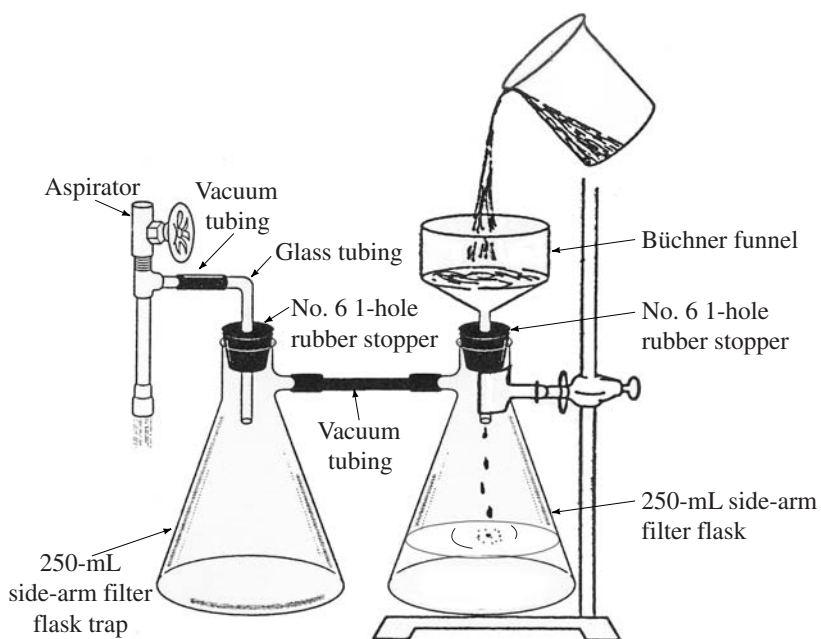

Figure 5.2
4. As the reaction proceeds, you will see flakes of brown copper accumulating on the wire. Occasionally shake the wire to loosen the copper. The disappearance of the initial blue color of the copper(II) ions indicates that the reaction is complete.
- b. Add 3 drops of 6 M aqueous ammonia to the test tube. If a dark blue solution appears, copper(II) ions are still present, and the solution should be heated to 60°C for 15 min. (Use a hot plate.)
6. When the supernatant no longer tests for copper(II) ions, the reaction is complete. Shake the aluminum wire so that all the copper clinging to it will fall into the solution. With a wash bottle filled with distilled water, wash the aluminum wire to remove any remaining residual copper. Remove the unreacted aluminum wire from the solution and discard into a solid waste container provided by your instructor.
7. Set up a vacuum filtration apparatus as shown in Figure 5.2.
8. Weigh a filter paper that fits into the Büchner funnel to the nearest 0.001 g; record on your Report Sheet (2).